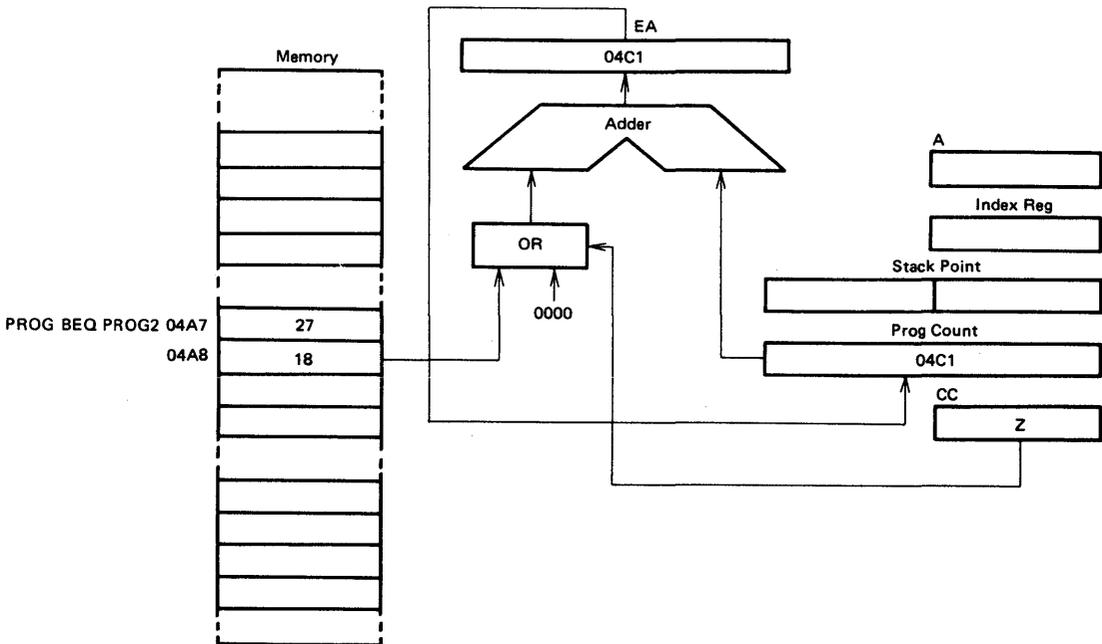

Figure 23 Example of Relative Addressing
See Figure 23. Only Branch instructions are used in relative addressing mode. When a branching takes place, the contents of the byte next to the OP code are added to the program counter. $EA = (PC) + 2 + Rel.$, where Rel. indicates signed 8 bits data at the address following the OP code. When no branching takes place, Rel. = 0. When a branching occurs, the program jumps to any byte of +129 to -127 of the current instruction. The length of the Branch instruction is 2 bytes.